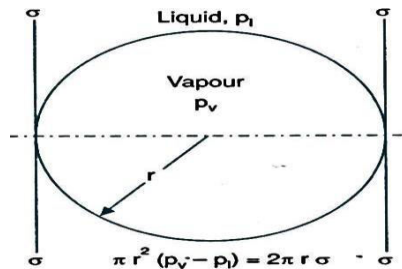

Fig. 8.4(b) Force balance for a spherical bubble
- The vapor inside the bubble is not necessarily at the same temperature as the liquid and the vapor pressure P_v inside the bubble exceeds the liquid pressure P_l acting from outside of the bubble. Fig. 8.4(b) indicates one such spherical bubble with various forces acting on it.